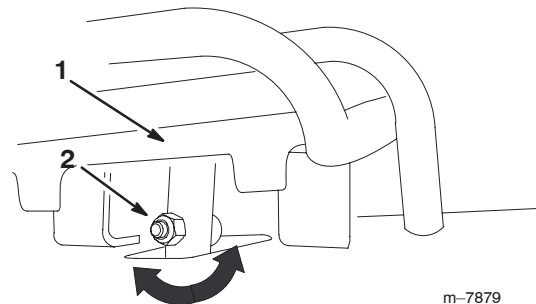

Figure 24
4. If the front of the traction control does not rest square and flush with the reference bar, loosen the flange nut and bolt in the stem of the traction control (Fig. 24).
5. Adjust the traction control so that it rest flush against the reference bar when it is pulled straight back (Fig. 24 and 25).